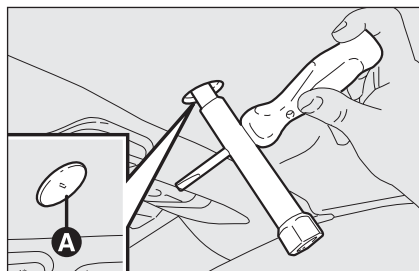

fig. 70
- ❑ take out the plastic **A-fig. 70** cap located in the centre of the finishing;
- ❑ use the proper tube type key located in the trunk and the screw included in the supply (**fig. 70**) turn the nut counter clockwise to close the front lock of the top;